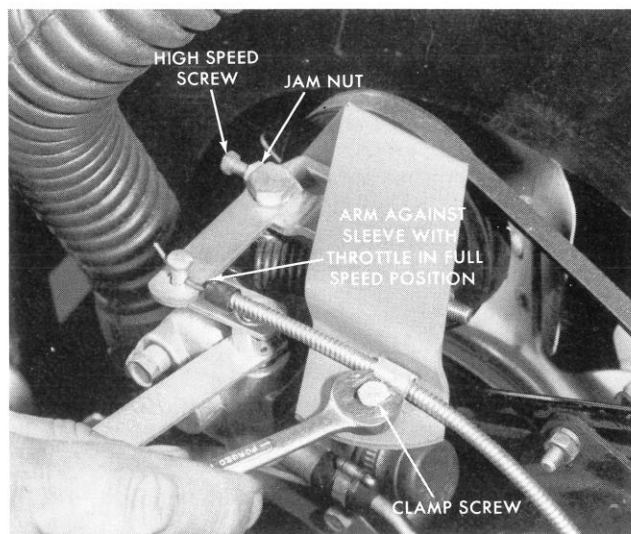

Figure 42
7. Place throttle lever in FULL SPEED position. Adjust the high speed stop screw to limit maximum speed at 3450 ± 100 RPM. Secure the adjustment with the jam nut. Figure 42.
8. Adjust the bowden wire clamp so the governor arm rests against the sleeve when the throttle lever is in the FULL speed position and lever is against the end of the slot. This will insure that no excessive pressure can be exerted against the linkage causing throttle settings to change. Figure 42.